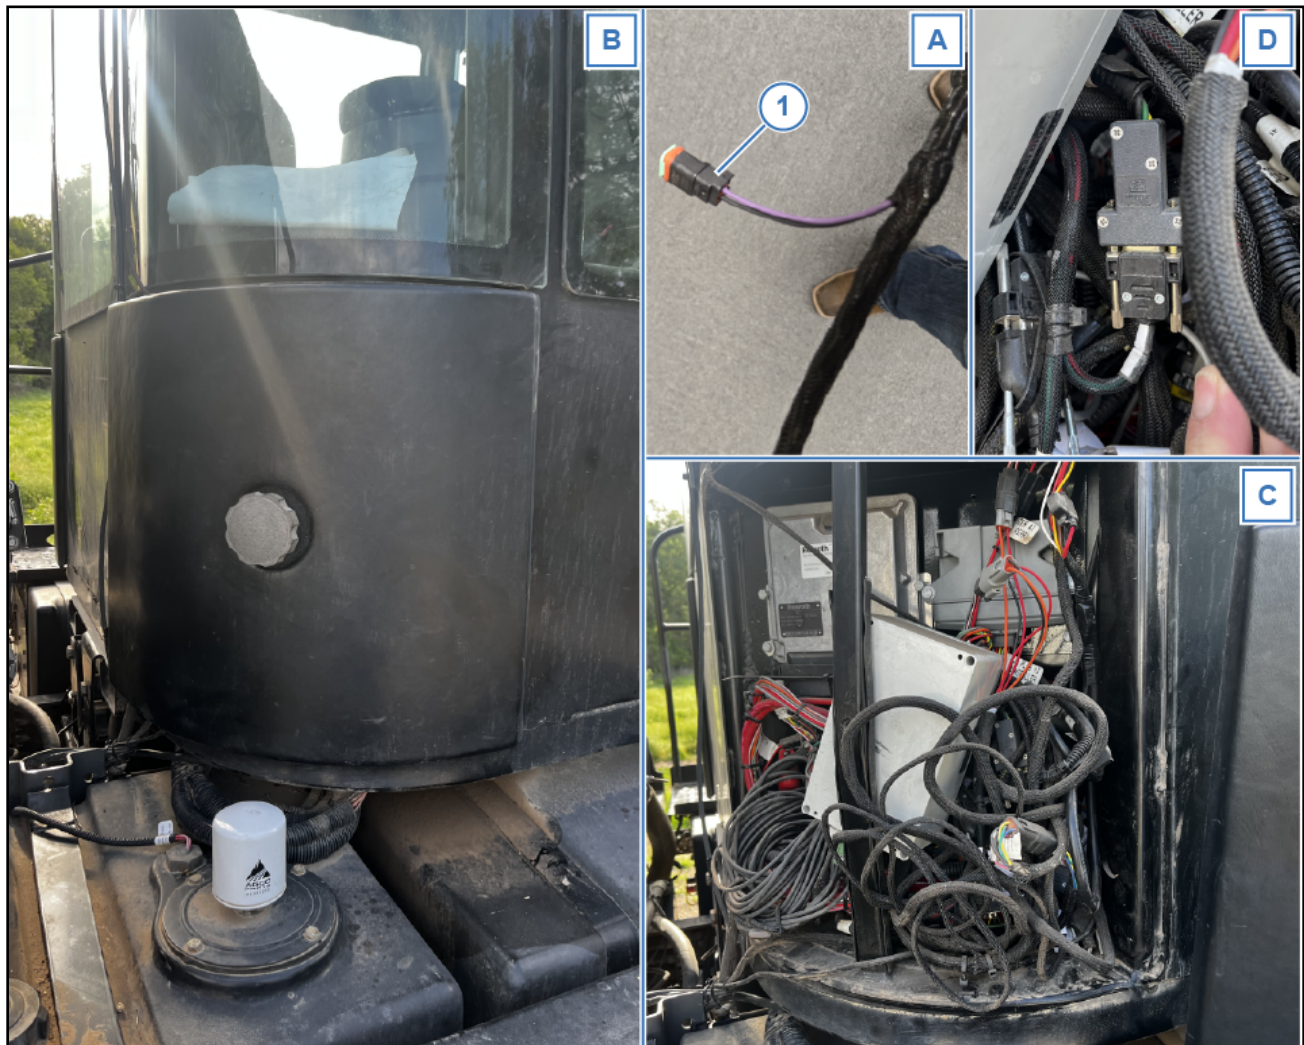

Figure 9: Serial GPS Cable
19. If the machine is equipped with serial GPS, locate the 2-pin connector on the Chassis Harness (Detail A), next to the connectors inserted into the Controller box (Figure 9, Item 1).
22. Remove the cover (Detail C). Locate the GPS Out serial connector (Detail D) and connect it to the Serial GPS Harness (Figure 9, Item 2).